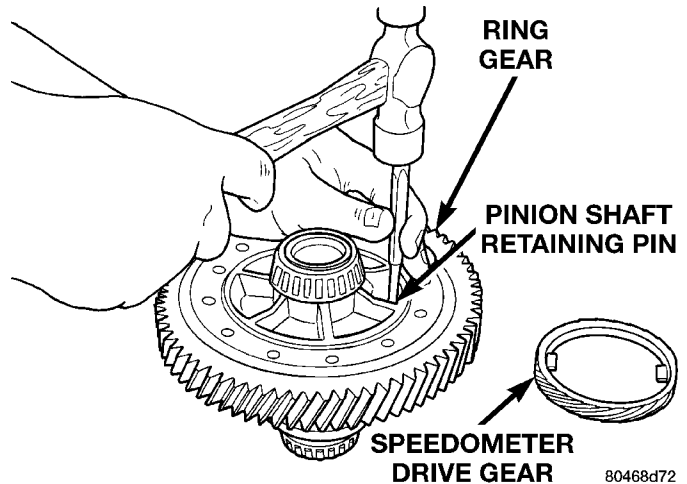
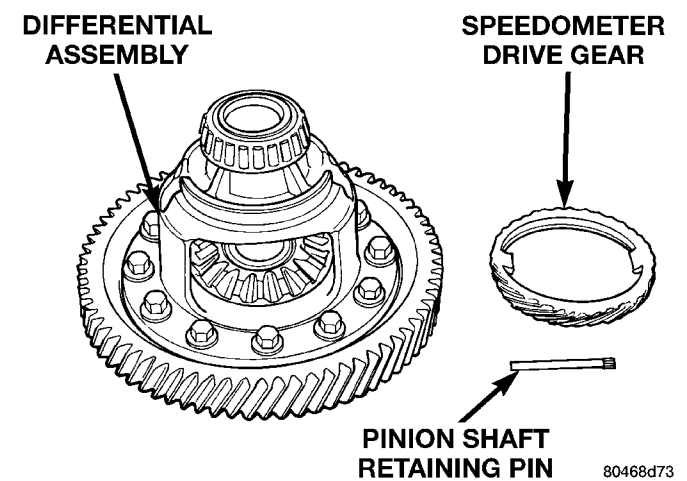

Fig. 108 Remove Pinion Shaft Retaining Pin
Fig. 109 Retaining Pin Removed
- (1) Remove pinion shaft retaining pin (Fig. 108) (Fig. 109).